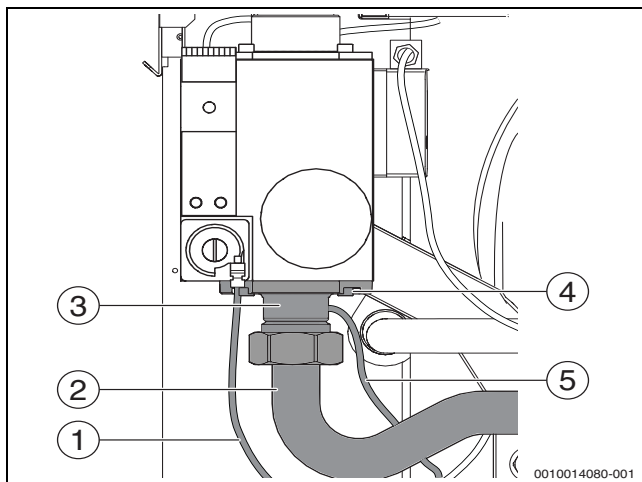

Fig. 25 Removing the gas flow restrictor
- ▶ Make sure the test cables for compensation [1] and gas outlet pressure [5] are correctly seated (→Fig. 25 and 17.4.3, page 61).